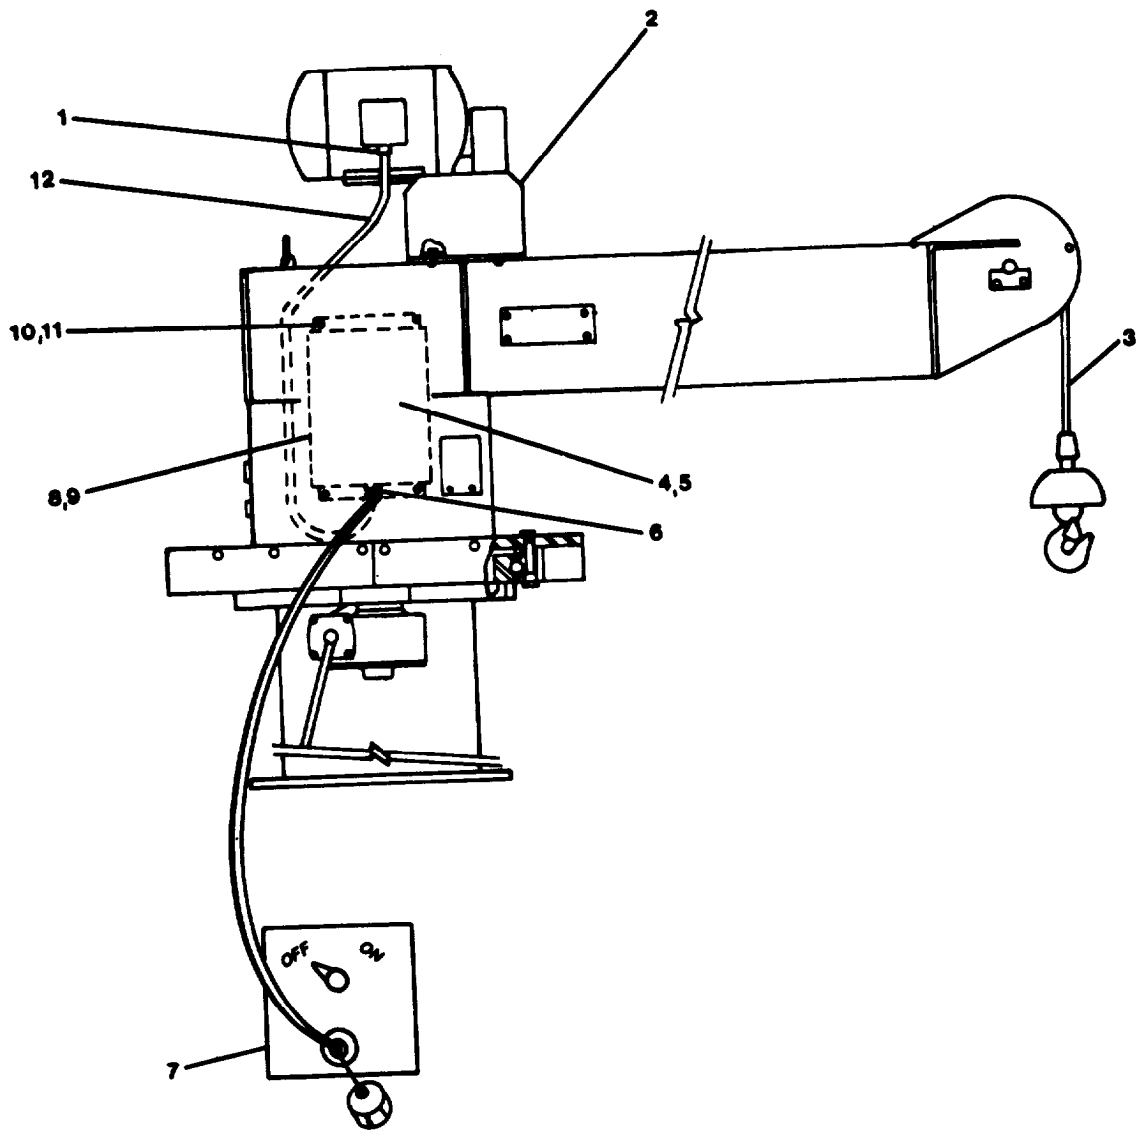

FIGURE 2-188. Repair Crane Assembly.
**2-218. Repair Crane Assembly. (FIGURE 2-188).**